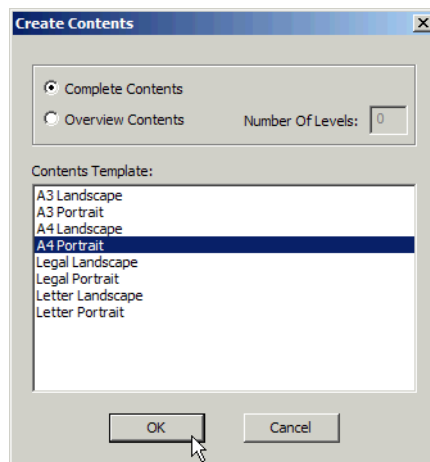

Figure 153. Create Contents Dialog
- In the **Create Contents dialog** select a template and check complete or overview contents, see Figure 153.